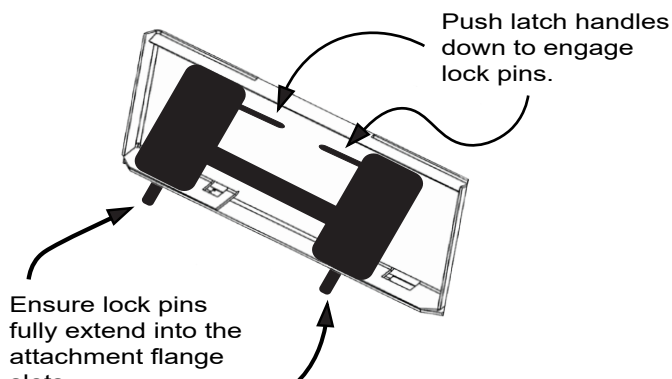

FIGURE 4.2B QUICK ATTACH COUPLER LOCKED TO ATTACHMENT PLATE
4. Activate your skid steer's lever lock switch to engage and lock the pins into the flange slots of the bucket's attachment plate. If your skid steer does not have this switch, push the latch handles down until you can see the lock pins extend into the attachment flange as shown in Figure 4.2b below.